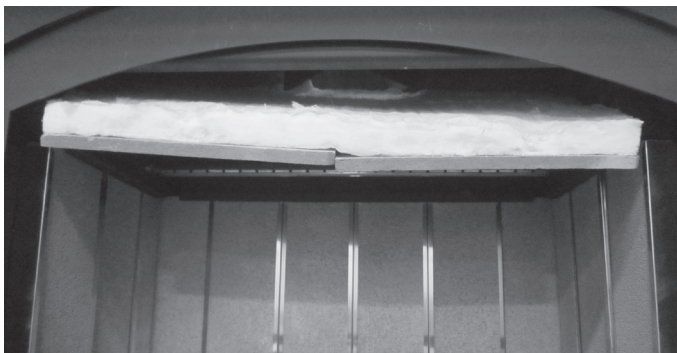

Figure 4.7
5. Pull the two (2) piece baffle board and insulation down and out of the fireplace. See Figure 4.7.